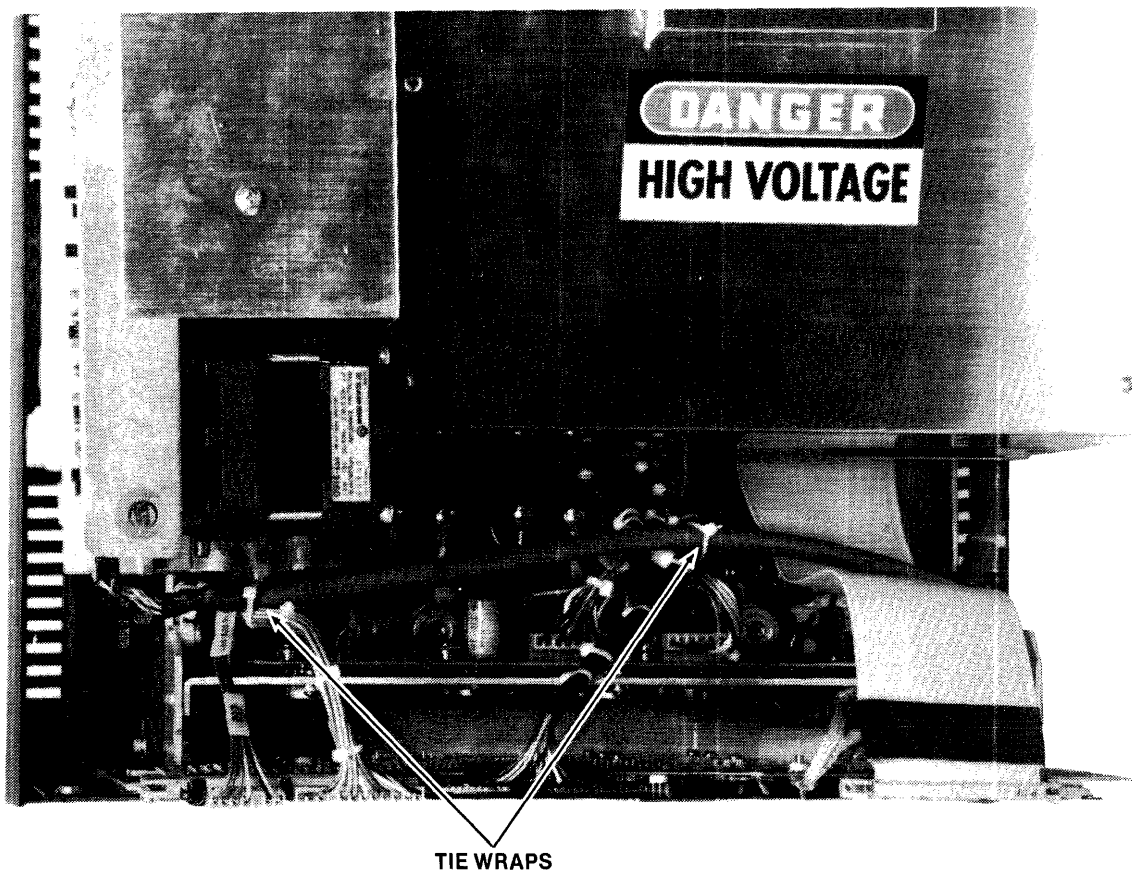

Figure 9. Top View of Development System Showing Tie Wrap Locations
14. Using the wraps, tie the double density controller cable to the cable from IOC J16 and to the cable from IOC J15. (See figure 9.)